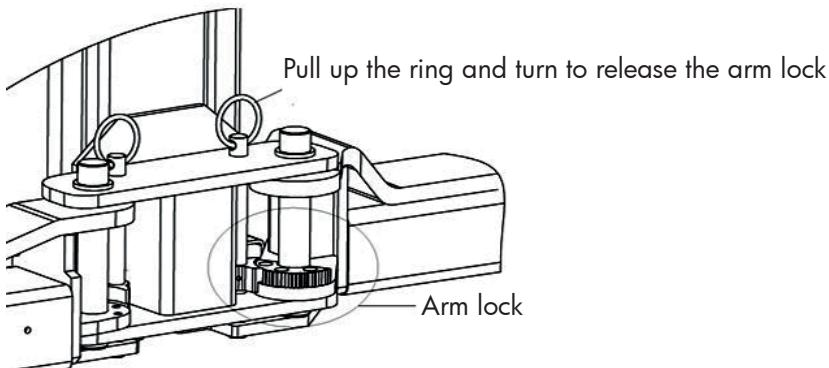

Fig. 10
9. Install lifting arms (fig. 10).